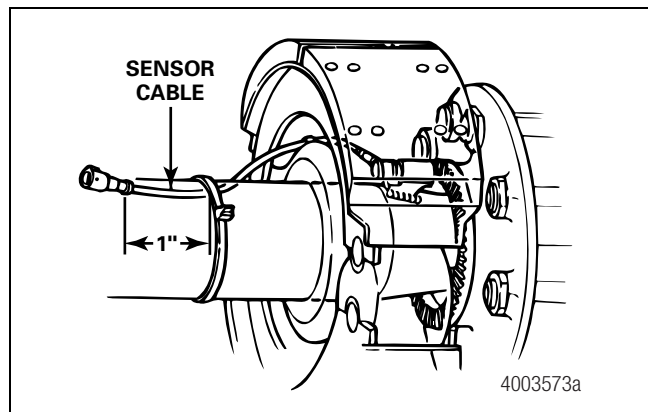

Figure 29
- Route the sensor cable toward the brake chamber, either over the brake spider or through the pre-stamped hole dedicated to ABS sensors. Route to the back side of the axle. Use black tie wraps to secure the cable to the axle between the brake spider and the suspension brackets. Continue to route the sensor cable behind the spring seats. Secure the cable to the axle one inch from the molded sensor plug. Figure 29.